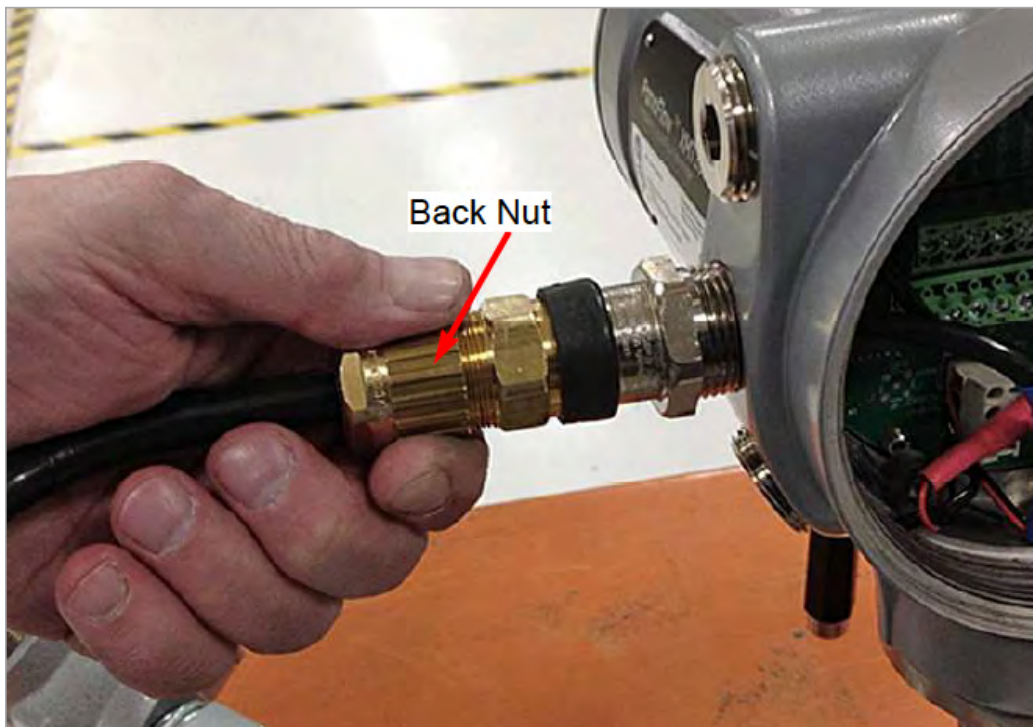

Figure 13: Tightening the back nut by hand
10. Hand tighten the *Back Nut* to secure the *Coaxial Cable* and make a weather-tight seal (see *Figure 13* below).